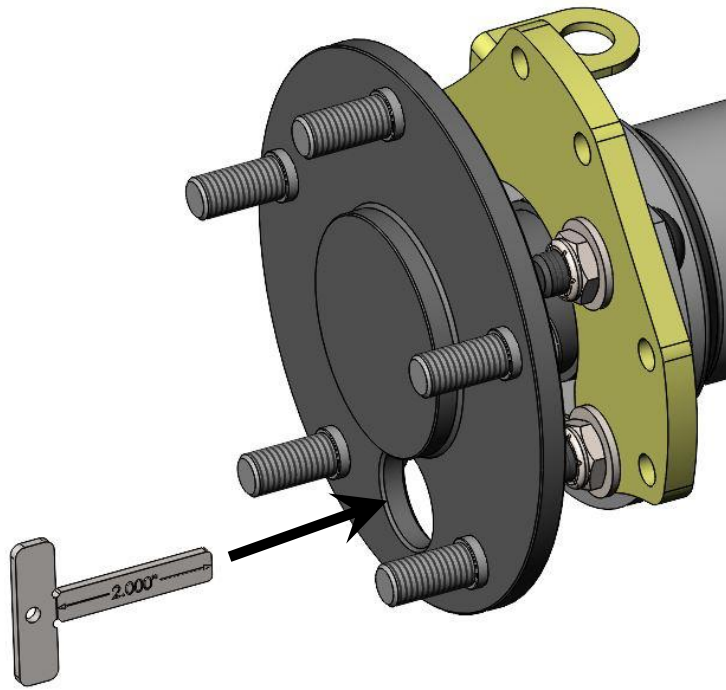
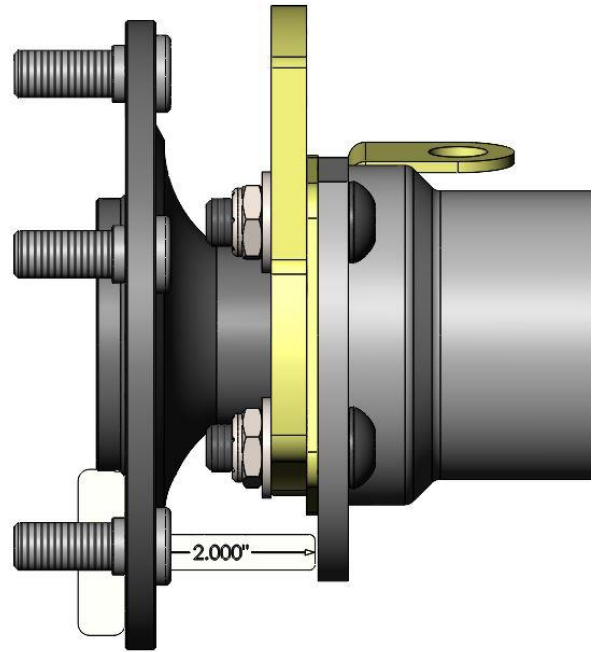

Figure 3a – Measuring Axle Standoff (2.000" Standoff Shown)
Figure 3b – Measuring Axle Standoff (2.000" Standoff Shown)
- The standoff of the rear axle must be determined next. This is achieved by taking the supplied depth gauge and holding it flat on the face of the axle flange through the axle access hole. If the end of the depth gauge is touching or very close to the axle tube flange, your standoff is 2.000". If the end of the depth gauge is approximately .375" away from the axle tube flange, your axle standoff is 2.375". Refer to Figure 3a and Figure 3b on the next page for reference on how to measure your standoff.